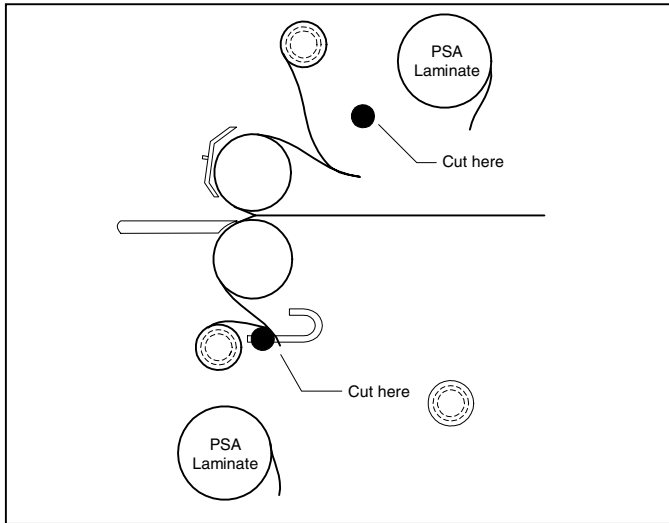

Fig. 27
5. Cut remaining top and bottom film webs just behind the web idlers. (Figure 27). PSA Adhesive, cut near the roll of material. **Be careful not to cut any of the rollers!**